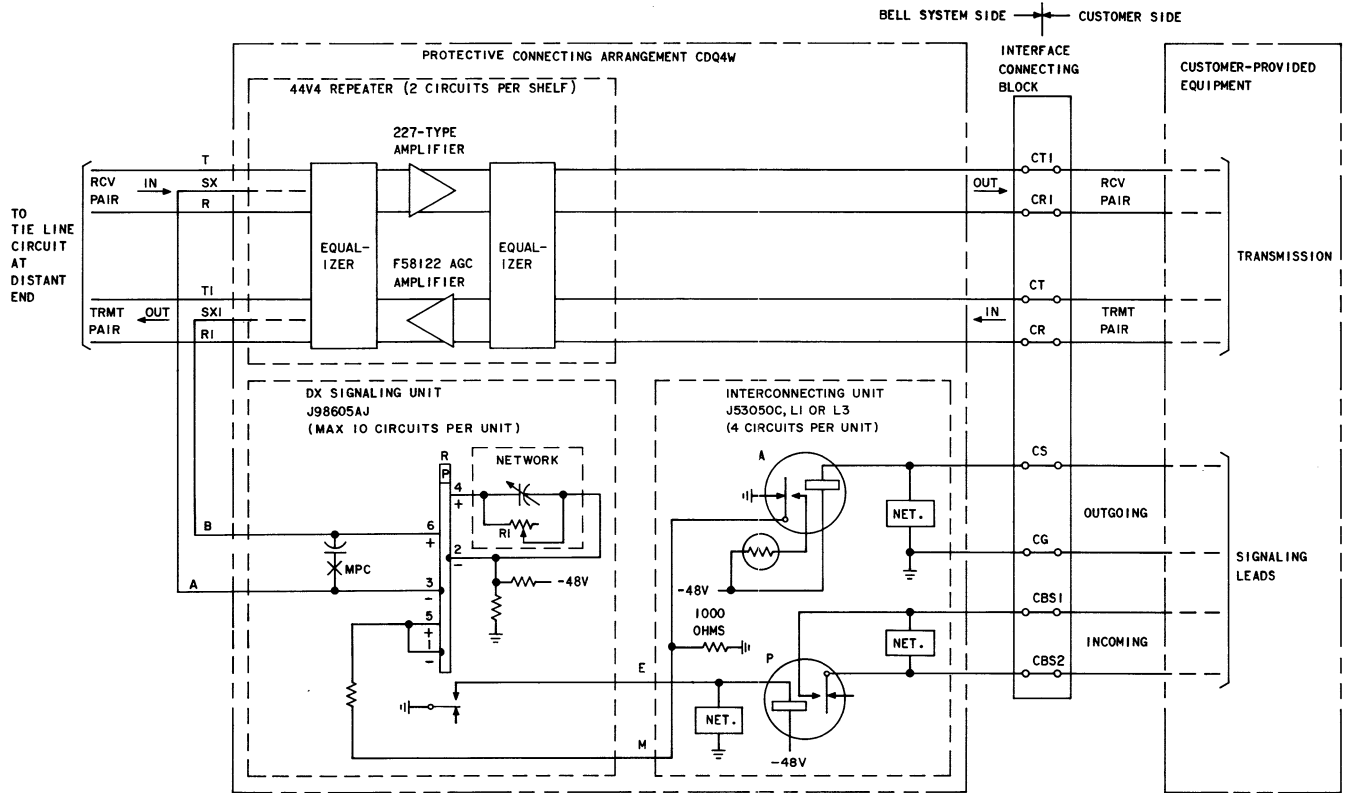
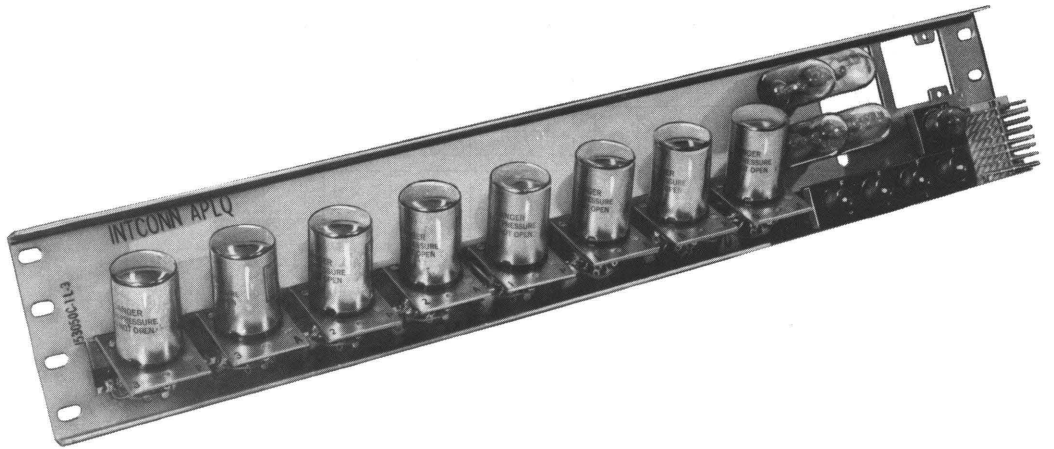
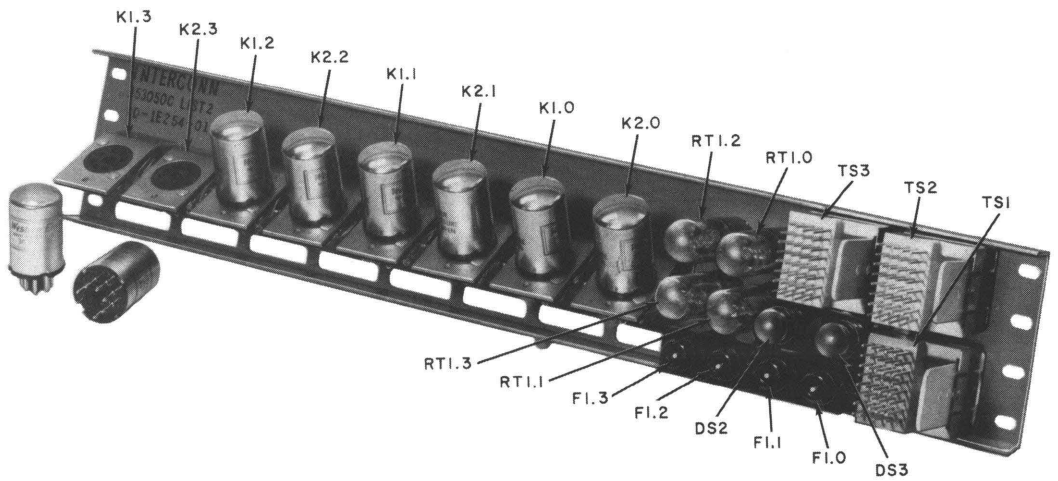

Fig. 1—Simplified Schematic—PCA CDQ4W
Fig. 3—J53050C, List 3 IU
Fig. 4—J53050C, List 2 IU
1.01 This section provides identification, installation, method of operation, maintenance, and connecting information for Protective Connecting Arrangements (PCA) CDQ4W and CDQ4X (Fig. 1 and 2). These PCAs provide for the connection of 2-way dial repeating tie trunks between a customer-provided (CP) switching system and a Bell System PBX or Centrex system. They present a 4-wire transmission interface with channel signaling provided by the telephone company between Bell System 4-wire facilities and the CP equipment (CPE). PCA CDQ4W is used with CP trunks designed for a dry contact type signaling interface. PCA CDQ4X is used with CP trunks designed for an E and M type signaling interface. PCA CDQ4W consists of an interconnecting unit (IU) J53050C, List 1 (MD) or List 3 (Fig. 3); DX signaling unit J98605AJ; 44V4A intermediate repeater shelf J98615AH, List 2, equipped with plug-in components; and KS-15620, List 22 rectifier. PCA CDQ4X uses the same equipment as CDQ4W with the exception of the J53050C IU which is a List 2 (Fig. 4) instead of a List 1 or 3.
Note: For plug-in components, refer to Section 852-307-101. When automatic control of signal power level is required, order F58122 automatic gain control (AGC) amplifier for use in the **transmitting leg from the CPE to Bell System facilities** instead of the standard 227-type amplifier shown in Section 852-307-101 (see Fig. 1 and 2).
(Fig. 1, 2, and 8)
(a) **PCA CDQ4W (Fig. 1):** At the telephone company side of the interface connecting block, connect a 4-wire telephone, such as a 500AD, to the CT, CR, CT1, and CR1 leads; a 1013A handset across the CS and CG leads; and an 81A test set across the CBS1 and CBS2 leads. Connect talk battery from the -48 volt supply through a 500-ohm resistor to CR and ground to CT. (A 2A or 31A KTU can be used for battery feed instead of the resistor; refer to Section 518-112-421 for connections.) With the 1013A in the TALK mode, dial the distant end while monitoring on the 500AD. The distant
4.01 Incoming Call—PCA CDQ4W (Fig. 1)